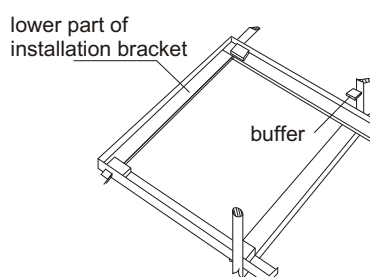

Fig.6
- Put the buffers on the installation bracket as shown in Fig.6. Adjust the appliance as shown in Fig.4. The leveling pads are employed to tilt the appliance in order that the indoor side is about (15~20) mm higher than the outdoor side for fear the condensate overflow into the room.